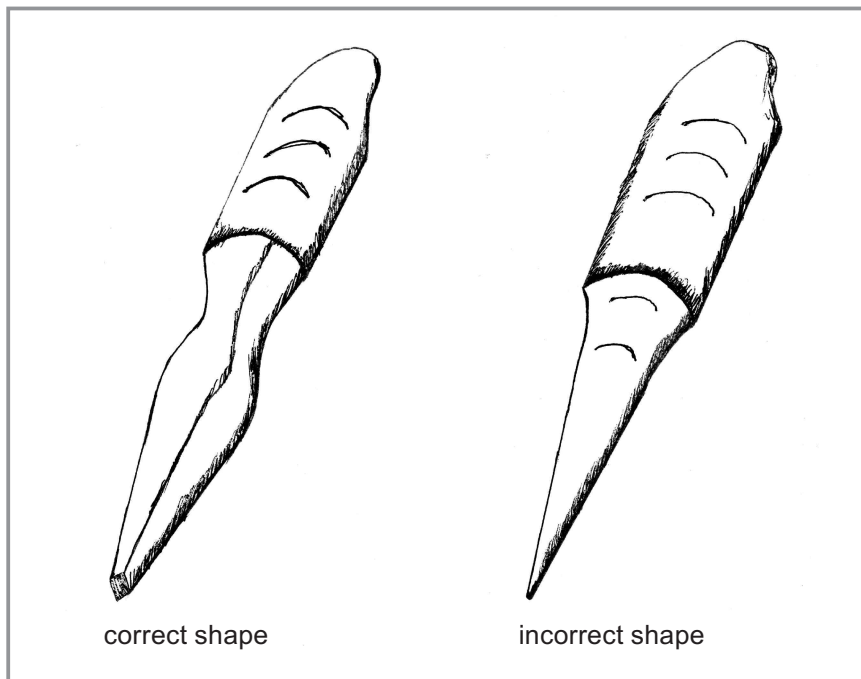

Fig. 12
**8-2** Solder tip: A correct shape of the solder tip is flat-chisel like instead of a sharp point, as shown in Fig. 12.